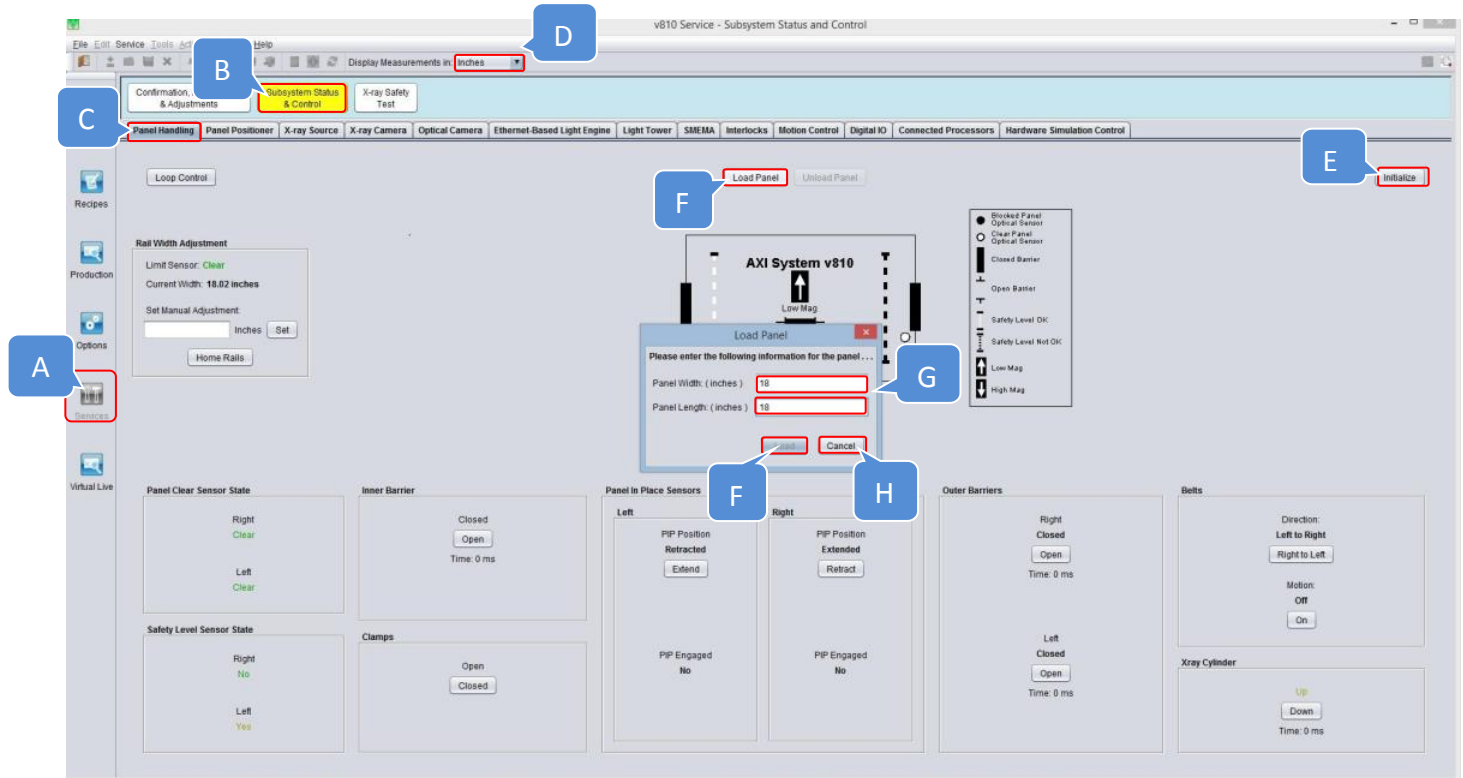

Figure 12 XY Stage (Right To Left Loading Direction)
17. Remain XY stage at loading position. Open Sensor Amplifier Top Cover, Functional Button and Display Panel will illustrate as below Figure 12